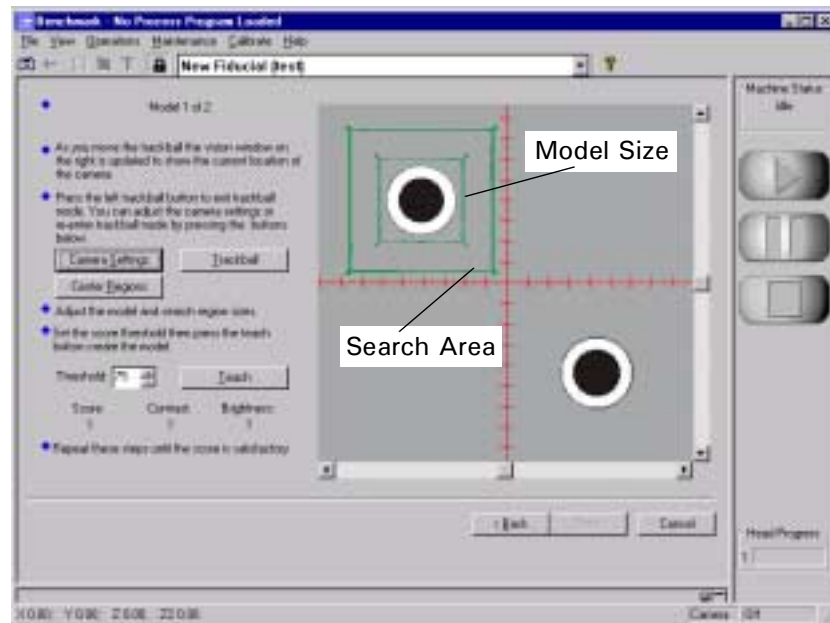

Figure 8-15
10. Using the handles drag and adjust the **Search Area** and **Model Size** bounding boxes so that they are centered over the first fiducial. See Figure 8-15.